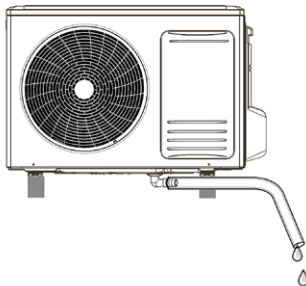

fig. 10 -
2. Connect the fitting ("fig. 10 -") to a sufficiently resistant rubber hose (so that it is not deformed or throttled in any way).